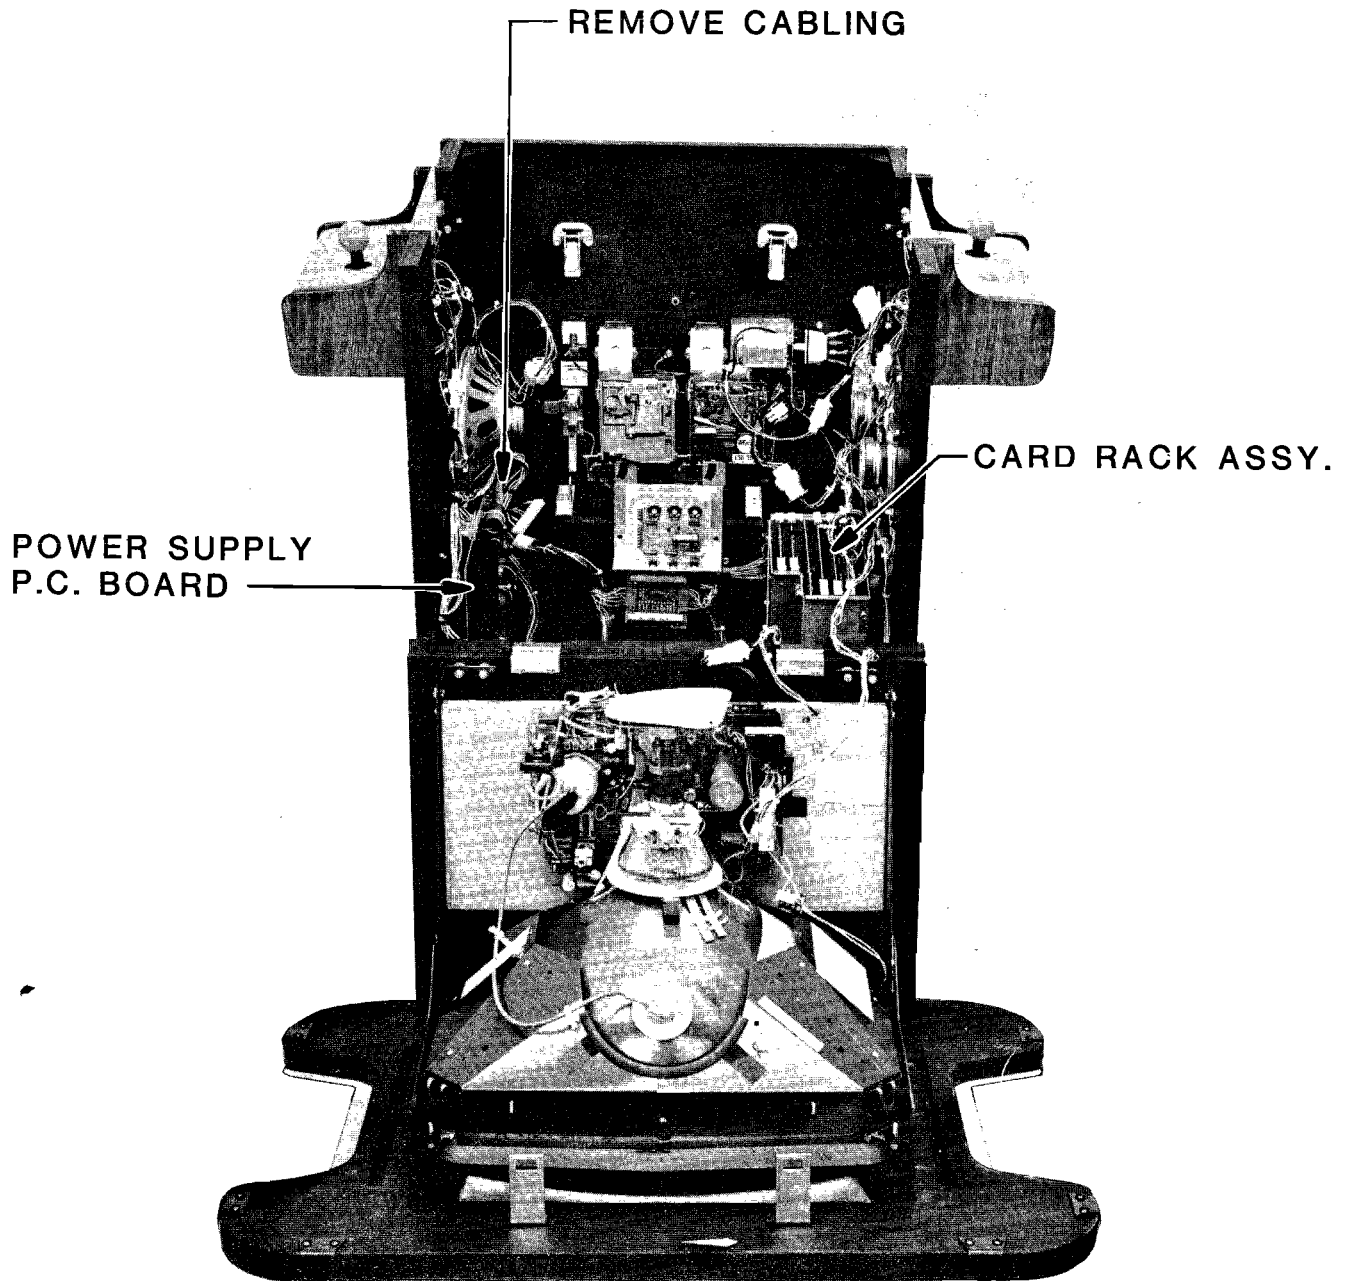

FIG.28
G. OPENING THE ATTRACTION PANEL — SEE FIGURE 28:
- b. Remove the screws from the top of the top bracket. See Figure 28.
- c. Remove the top bracket and slide up the attraction panel. This exposes the attraction panel fluorescent light tube and its mounting bracket assembly. See Figure 28.